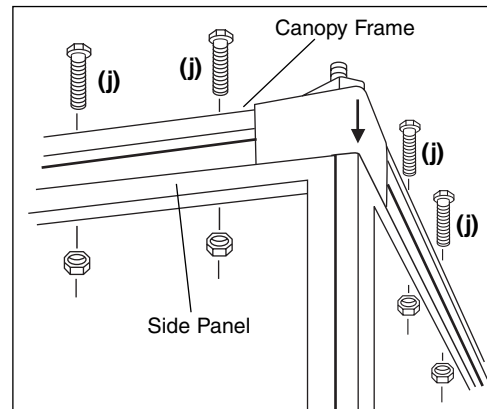

Fig. 14
- Starting in one corner, align holes in side panel with holes in canopy frame. From the top, insert four (4) 1 1/2" screws (j) through the holes and secure with nuts (Fig. 14). Repeat this step at remaining 3 corners.